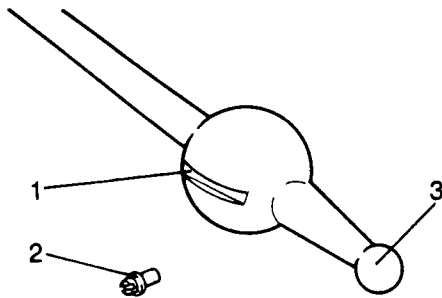

Fig H1.160
- (5) Refer to Fig H1.160. Inspect for wear the fixing groove (1) for the gear lever.
- (6) Inspect the fixing screw (2).
- (7) Inspect the selector finger (3) of the gear lever for wear.
- (8) Replace damaged or worn items.